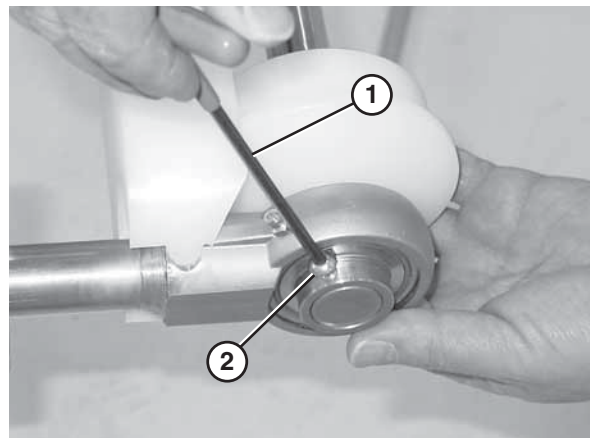

Figure 86
7. Use a hex wrench (**Figure 86, item 1**) to tighten the bearing shaft fasteners (**Figure 86, item 2**).